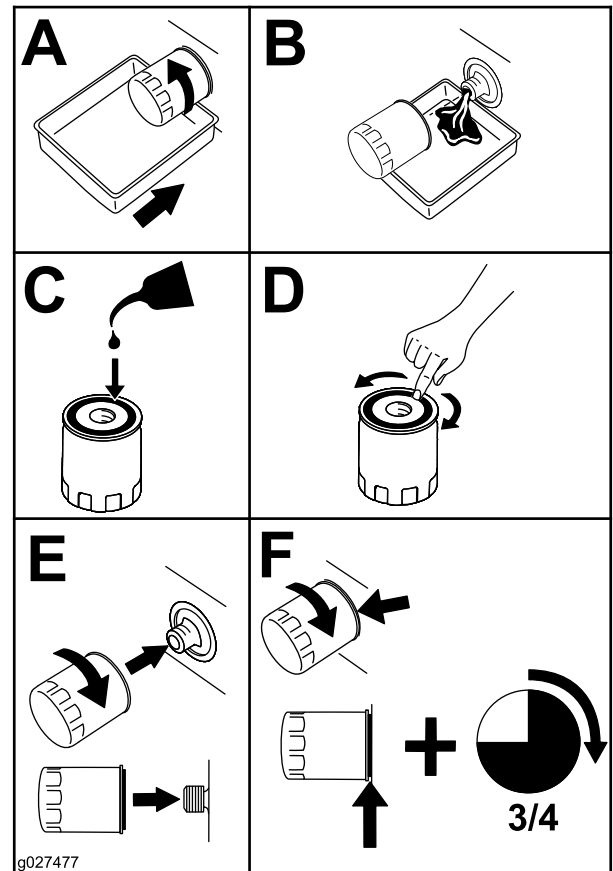

Figure 62
- Change the engine-oil filter (Figure 62).